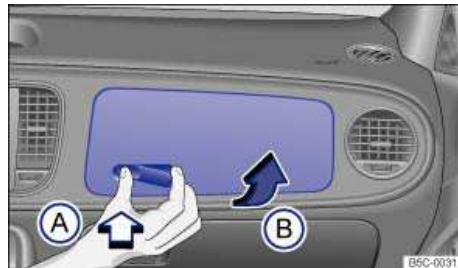

Fig. 105 On the passenger side: Opening the upper glove compartment (if equipped).
- To *open*, press on the depression in the opening handle ⇒ **fig. 105 B** (arrow **A**). Then lift the glove compartment lid upward using the handle (arrow **B**).